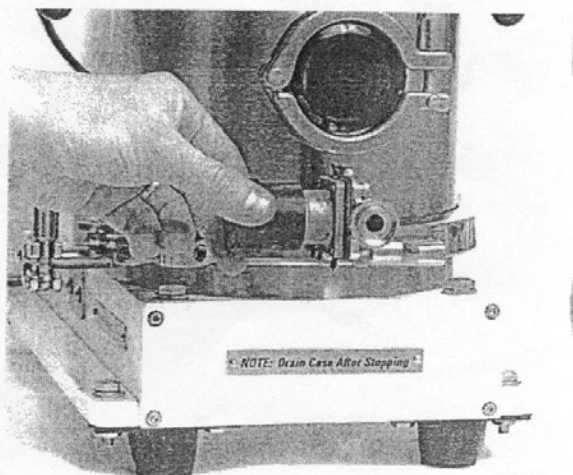

Figure 4
- 5.1.6 Close the drain valve located at the bottom of the hosing (Attachment I, Figure 4). Open the valve occasionally to prevent any bowl overflow form accumulating in the case. Discard any material collected as waste.
10.1.4 Figure 4 – Bowl Overflow Drain Valve